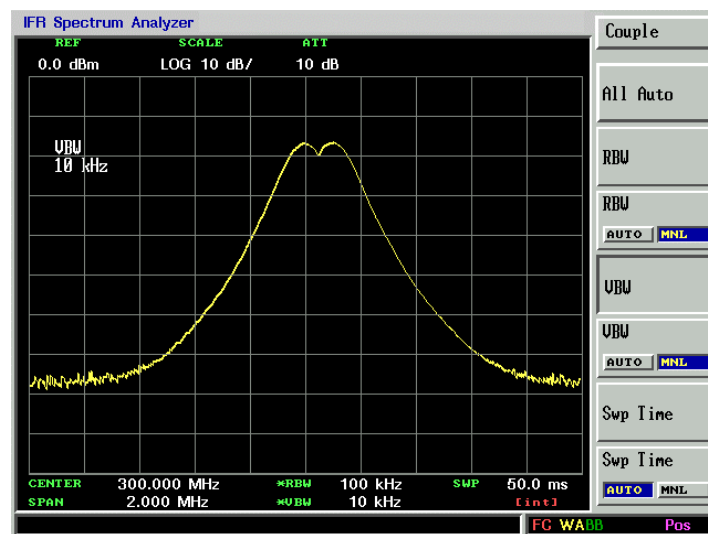

Figure 2-4. Resolving Signals of Equal Amplitude
Generally, to resolve two signals of equal amplitude, the resolution bandwidth must be less than or equal to the frequency separation of the two signals. If the bandwidth is equal to the separation and the video bandwidth is less than the resolution bandwidth, a dip of approximately 3 dB is seen between the peaks of the two equal signals, and it is clear that more than one signal is present. See Figure 2-4.
4. Since the resolution bandwidth must be less than or equal to the frequency separation of the two signals, a resolution bandwidth of 100 kHz must be used. Change the resolution bandwidth to 100 kHz by setting **RBW, 100 kHz**. Two signals are now visible as shown in Figure 2-4. Use the knob or step keys to further reduce the resolution bandwidth and better resolve the signals.